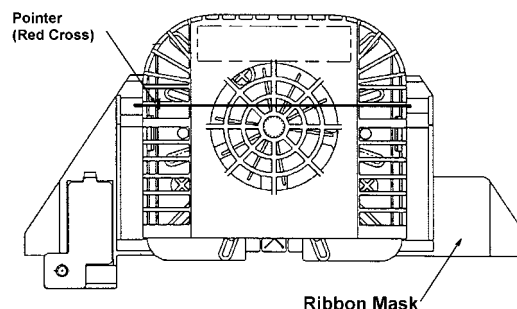

Figure 1-23. Pointer
- b) Move the pointer (Refer to Figure 1-23.) to one of the label's corner.